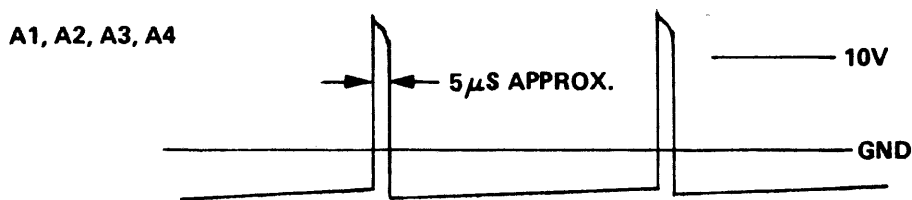

Figure 4-9. Power SCR Gate Driver Pulses
- c. Verify that the gate driver waveforms of Power SCR's A1, A2, A3 and A4 appear as shown in figure 4-9. These may be checked by connecting the scope probe to test jacks A1 → A4 in sequence. Use the corresponding REFERENCE jack for probe ground in each case.